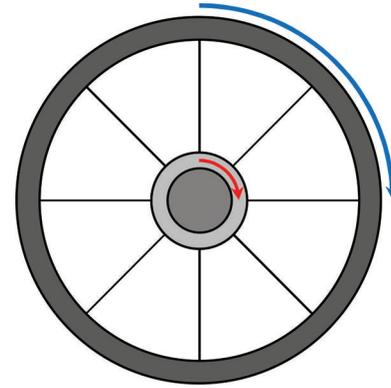

Figure 14
- The distance moved at the outside of the wheel is greater than the distance moved at the axle. You can see this on Figure 14, where the distance moved at the outside of the wheel is shown in blue, and the distance moved at the axle is shown in red. For the same forwards movement, a bigger wheel will give a smaller movement at the axle. Therefore, big wheels give less rubbing or friction at the axle.